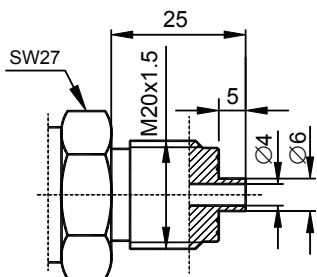

Fig.3. M-type pressure connector with M20x1.5 thread
7.1.1. Transmitters **APC-2000ALW (Ex) Safety** can be mounted directly on rigid impulse tubes. Pressure transmitters are mounted on one-way vented valves. Such connection of transmitter allows its easy cutting off of the system for washing of measuring membrane, local calibration, diagnostics, etc. Transmitters can work in any position, however cable inlets are best positioned horizontally or facing downwards. In the event of fitting at the facility with medium at elevated temperature it is beneficial to install transmitters in some distance from the stream of hot air. It is recommended that pressure connectors of transmitters are used with corresponding outlets, see Fig. 3 ÷ 4.
Setting (adjustment) of transmitter zero signal can be effected using buttons, after unscrewing the cover of transmitter electronic assembly housing, see Fig.3, using communicator KAP03, or using PC computer, Raport 2 software and modem Hart/RS - Clauses 9.2.3, 9.2.4, 9.2.5.